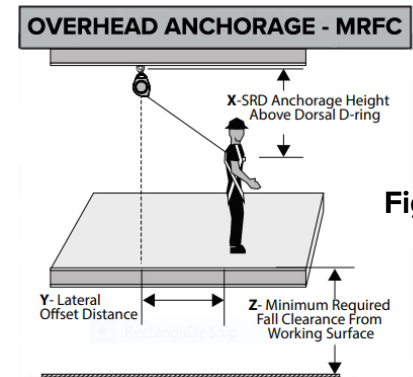

Fig. 7
- The SRL may be anchored anywhere in the allowable attachment area, which ranges from a height above the user to level with the Dorsal D-Ring of the user's full body harness (Fig. 7).